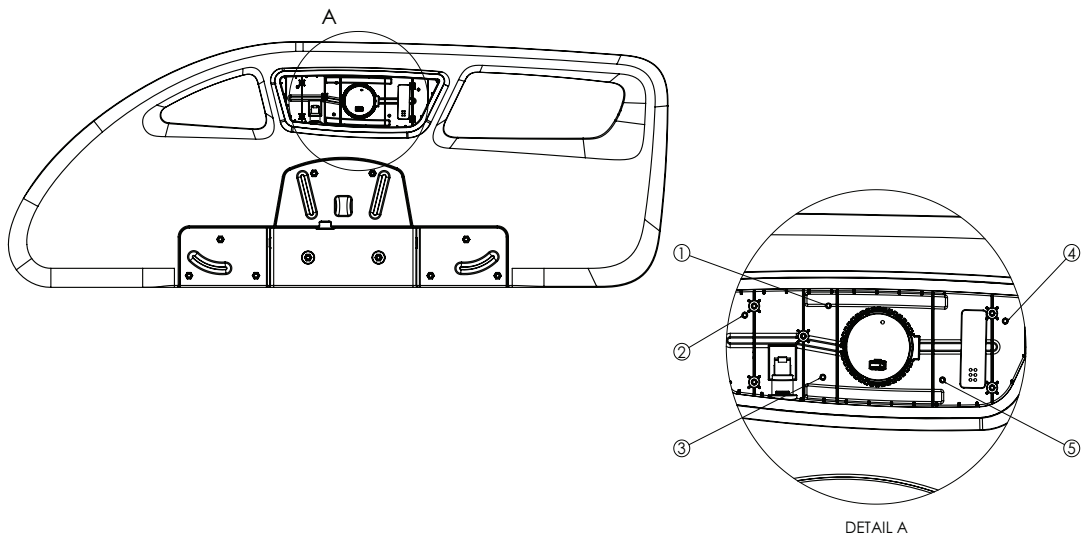

Figure 24 – PCBA and snaps
7. Twist the PCBA (A) away from the locating pins. Twist the RJ50 connector out of the side panel (Figure 24).
9. Using a hammer and pin, hit at the specified locations to release the five snaps (Figure 24, Detail A).
11. Using a step drill or a min Ø17 drill, drill at the punch locations (Figure 24, Detail A). Drill until the snap edges are cut.